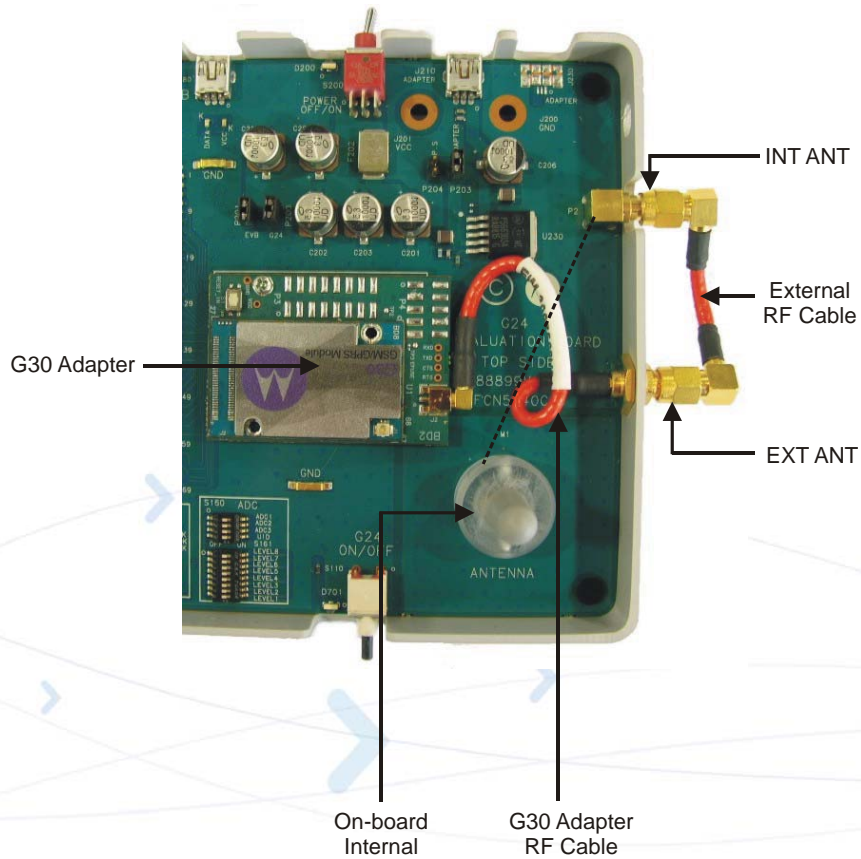
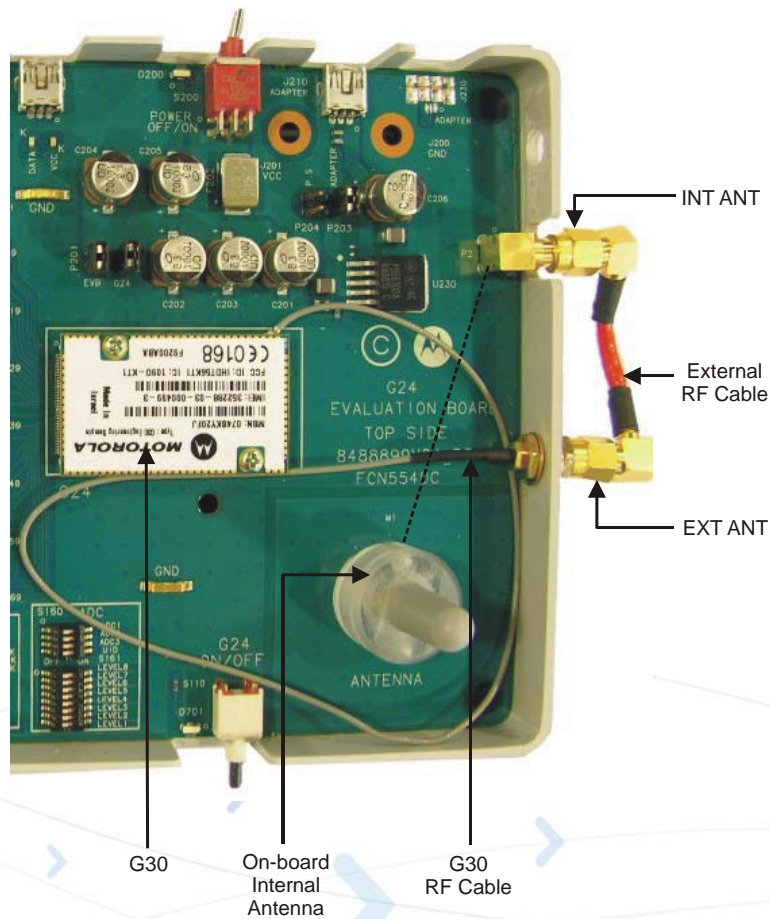

Figure 2-16: Antenna Connectors (internal) - For G30 Adapter
Figure 2-17: Antenna Connectors (internal) - For G30
- Connect the **EXT ANT** and **INT ANT** connectors with the additional RF cable supplied in the Developer's Kit (Figure 2-16 and Figure 2-17).
2. Connect an external antenna or antenna application to the **EXT ANT** connector (Figure 2-16 and Figure 2-17).